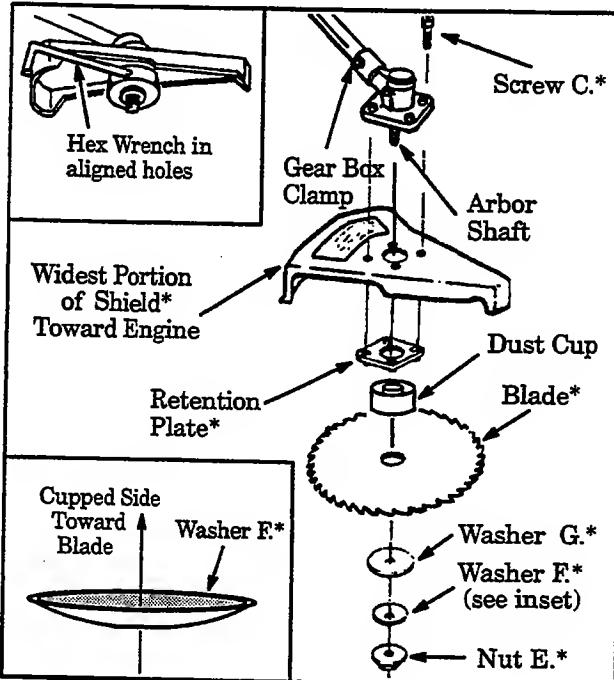

Figure 6
Failure to install the shield in the position shown in Figures 6 and 7 can result in serious injury to the operator. The length of the shield must be aligned with the length of the tube. Direct widest part of the shield toward the engine.
- c. Position the retention plate on the underside of the metal shield and align screw holes. Make sure the flat side of the plate is against the metal shield. Figure 6.
- d. Hold the retention plate in position and place the metal shield under the gear box. Align screw holes. Figure 6.
- h. Install blade over arbor shaft, making sure the hole in the center of the blade is fitted around the raised center on the dust cup. Figure 6.
NOTE: When installing blade, make sure teeth on blade are oriented as shown in Figure 6.
- i. Install the large flat washer "G.", cupped washer "F.", and nut "E." as shown in Figure 6. Be sure cupped washer "F." is installed as shown in Figure 6 (inset).
- k. Insert the large hex wrench (provided) into the aligned holes. Figure 6 (inset, upper left).